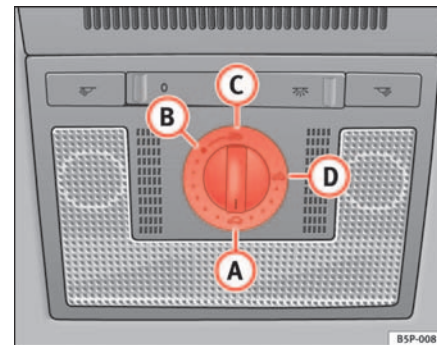

Fig. 71 Detail of the sunroof: rotary button for sliding/tilting sunroof
- Turn the rotary button to position  ⇒ fig. 71 ⇒ . ▶